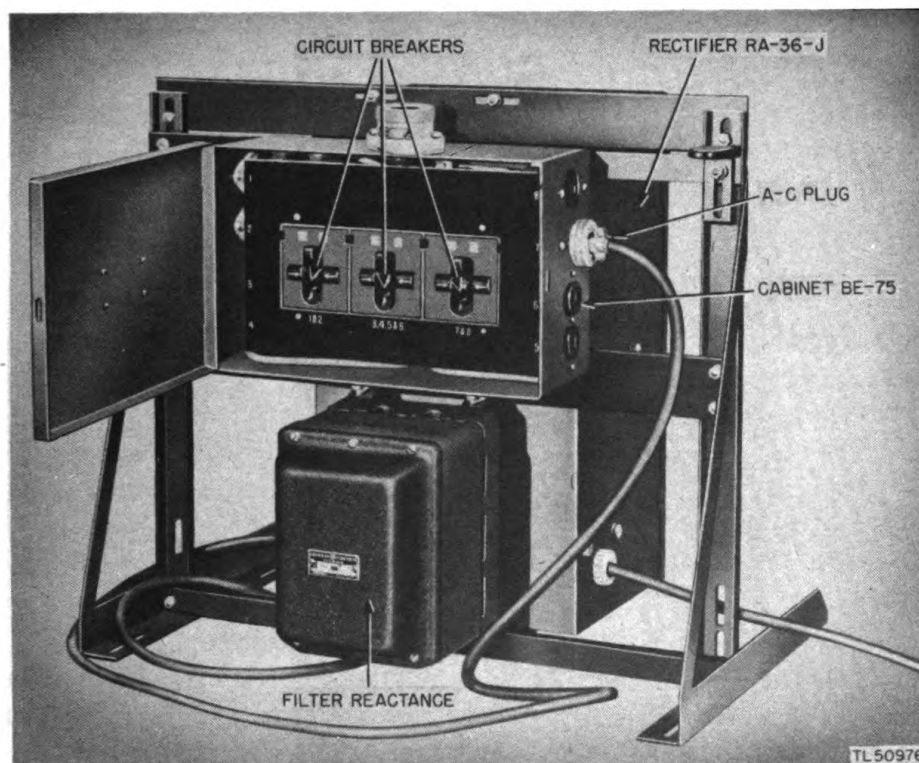

Figure 10. Cabinet BE-75, mounted on Rack FM-30.
e. Cabinet BE-75. The a-c power connections to the telering, Rectifier RA-36-(), Switchboard BD-110-(), and other equipment are made through the a-c distribution Cabinet BE-75 (fig. 10). This cabinet is a small metal case with a hinged cover. The cabinet has one duplex and two twist-lock receptacles mounted on each end, and a two-pole plug receptacle mounted on top of the cabinet. Three circuit-breaker switches are mounted on the front panel inside the front cover. Each circuit-breaker switch is a double-pole type rated at 25 amperes. Numbers stamped beneath each switch indicate the receptacles controlled by that switch. In use, the cabinet is fastened to Frame FM-30, directly behind Rectifier RA-36-().